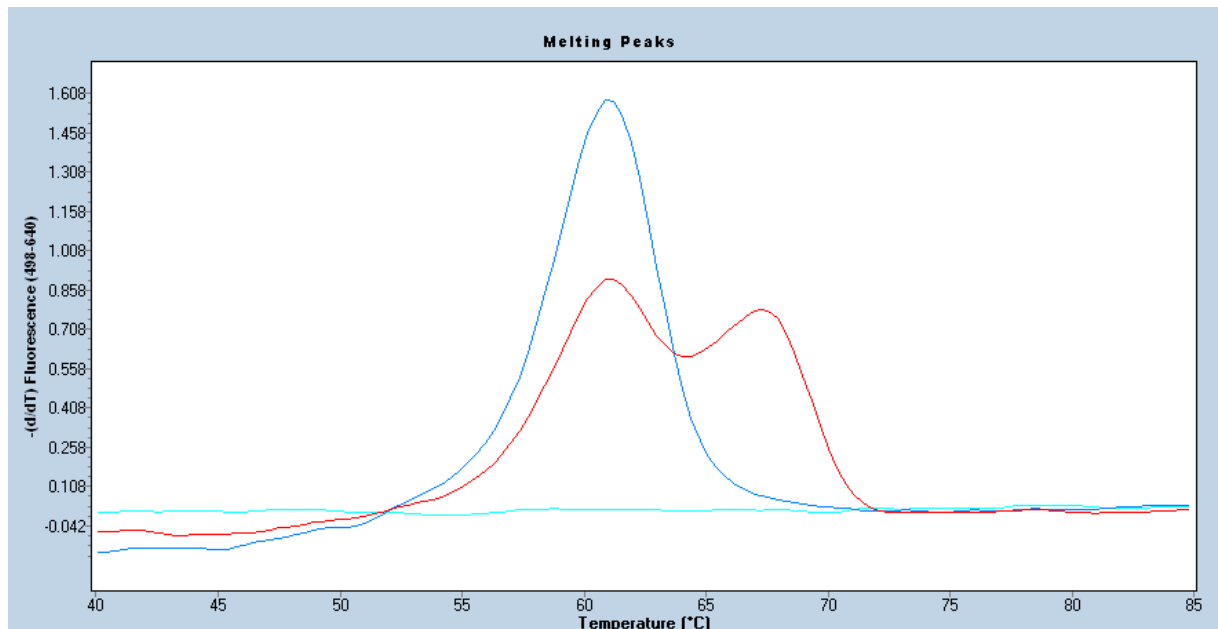

Figure 1 : Melting curve analysis of possible genotypes of the G20210A mutation in the FII gene.
Use the Melting Curve program to genotype the human genomic DNA samples. The melting peaks allow discrimination between genotypes of the human Factor II gene at nt position 20210, wild type (GG), heterozygous (GA) and homozygous (AA). **Figure 1 shows a typical result obtained with the FII G20210A ToolSet™ :**